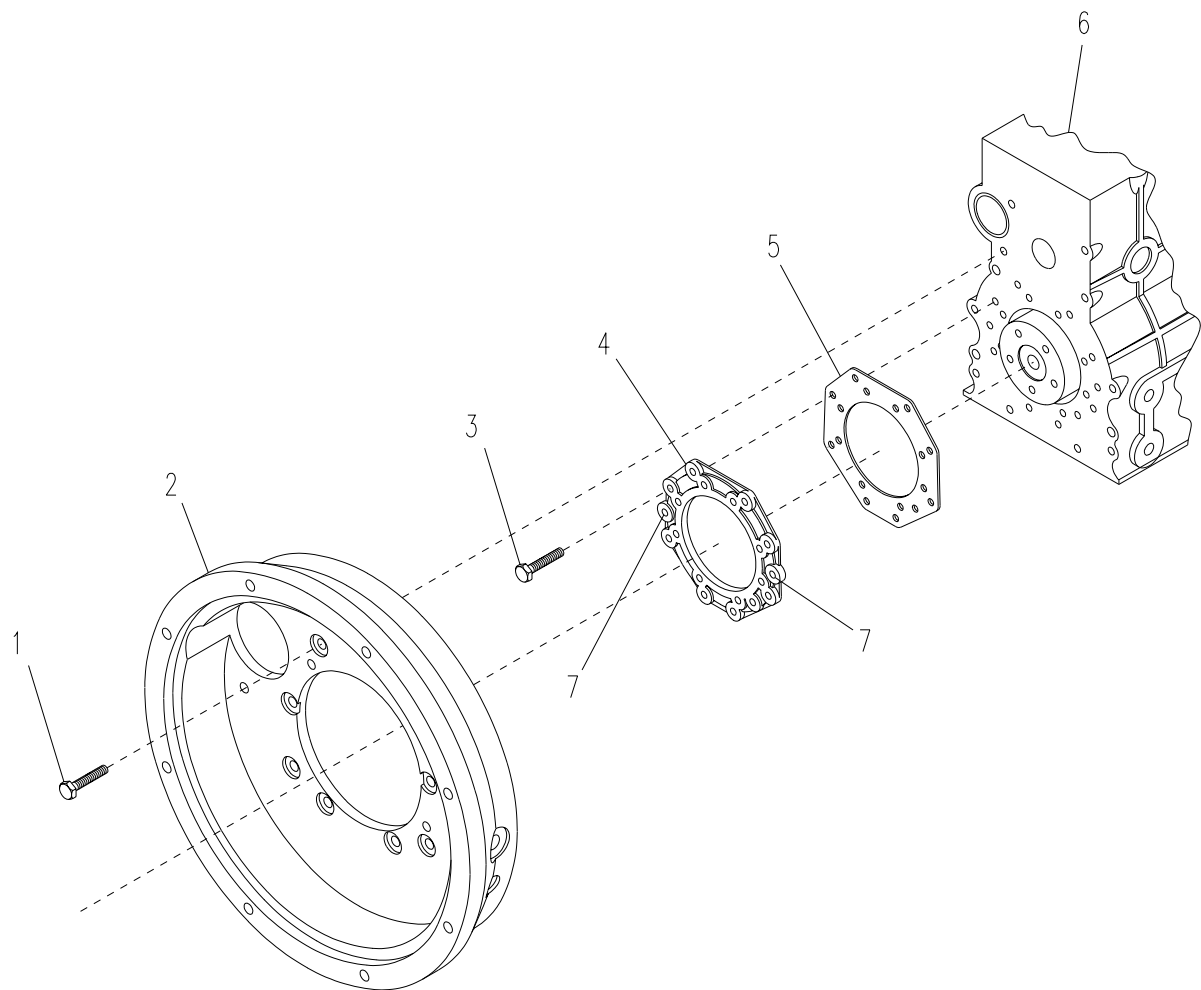

Figure 6-22. Bearing Case Cover
- a. Remove ten bolts (1, Figure 6-22) and remove bell housing (2).
- b. Remove sixteen bolts (3) securing bearing case cover (4) to engine (6).
- c. Install two of the bolts (3) removed in step b into two bolt holes (7) on either side of cover (4).
- d. Remove cover (4) by pulling on two bolts (3).
- e. Remove two bolts (3) from cover (4).
- f. Remove gasket (5) from cover.
- g. Apply sealing compound to both sides of new gasket (5) and install new gasket (5) on cover (4).